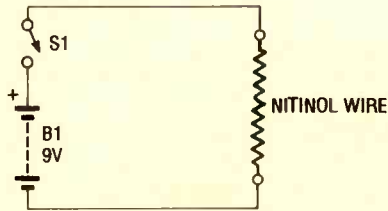

Fig 2. While this is the simplest way to activate Nitinol wire, it has some important limitations.
**Direct Electric Heating.** Nitinol wire can be activated using low voltage, such as a 9-volt transistor-radio battery. A simple circuit can be built using a battery, switch, and a small length of Nitinol (see Fig. 2).
as shown. Finish up by connecting the Nitinol wire to the circuit of Fig. 2.